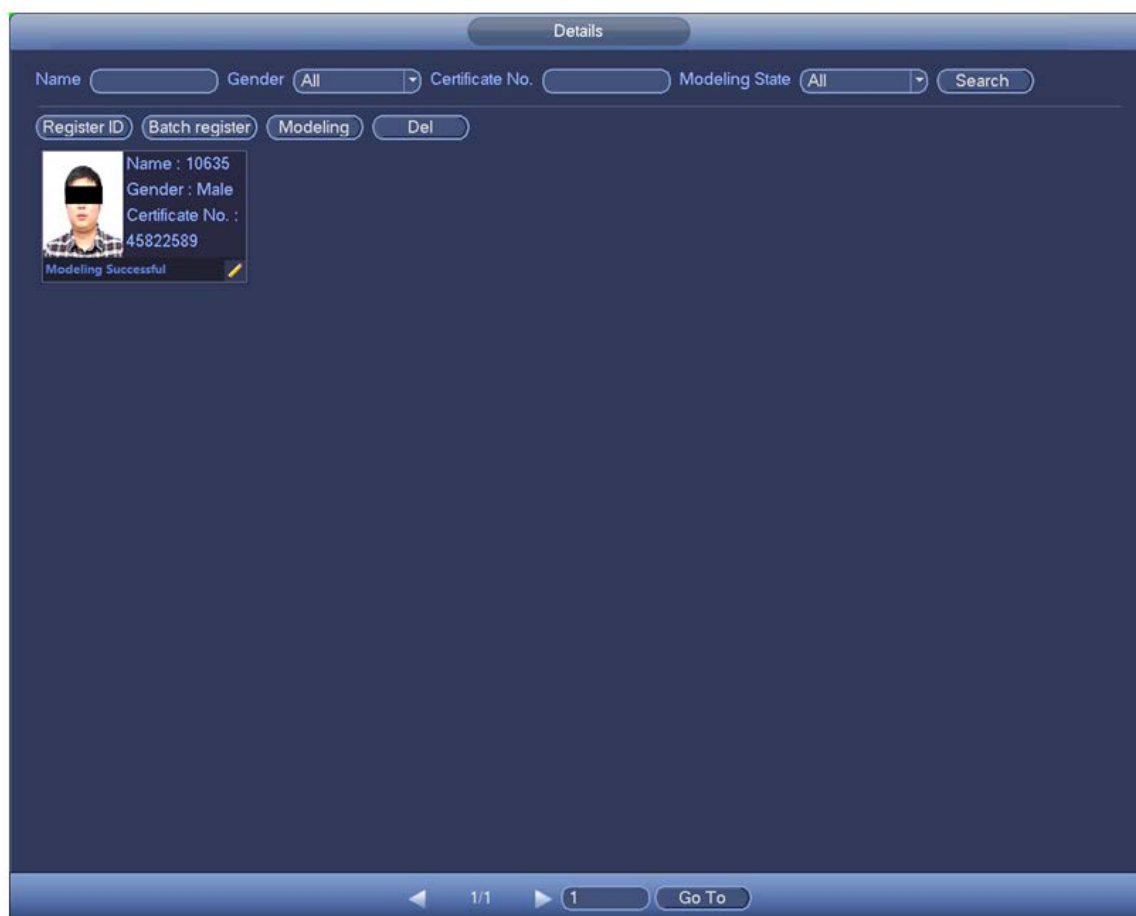

Figure 4-157
The Details interface is displayed. See Figure 4-157.
Step2 Click Batch Register in Figure 4-157.